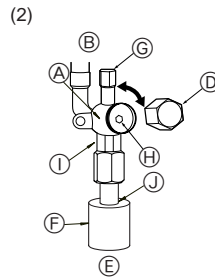

Fig. 4-6
- ① Remove the cap, then turn one-quarter rotation counter-clockwise with a flat-bladed screwdriver to complete open.
- ② Check that the valves are fully open, then return the cap to its original state and tighten it down.
#### (2) Liquid side of RP71-140 (Fig. 4-6)
- ① Remove the cap and turn the valve rod counterclockwise as far as it will go with the use of a 4 mm hexagonal wrench. Stop turning when it hits the stopper. (ø6.35: Approximately 4.5 revolutions) (ø9.52: Approximately 10 revolutions)
- ② Make sure that the stop valve is open completely, push in the handle and rotate the cap back to its original position.